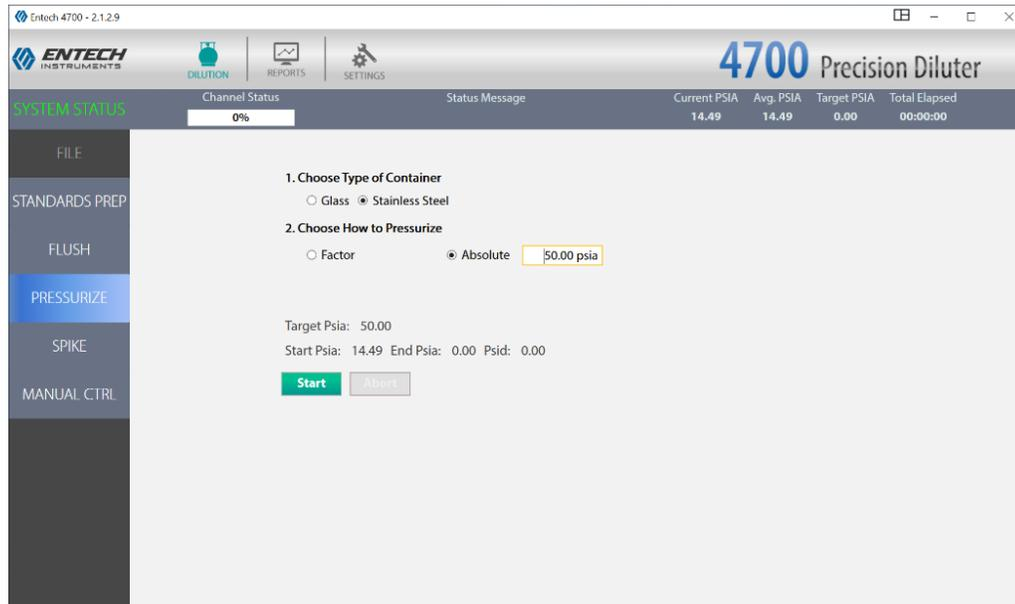

Figure 14: Entech 4700 Precision Diluter Pressurization Settings
- 3 Select the absolute pressurize function in step 2 "chosed how to pressurize." Enter 50 in the psia box that appears as shown below in Figure 14: